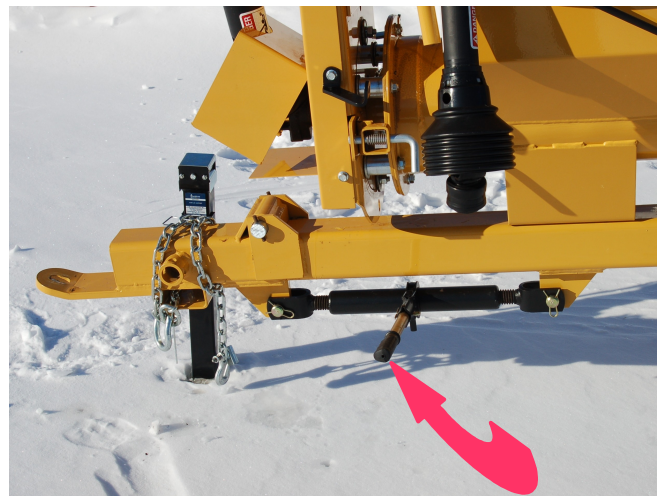

Fig. 5 SCREW JACK
16. To level hopper with ground adjust screw jack on hitch. See **Fig. 5**.